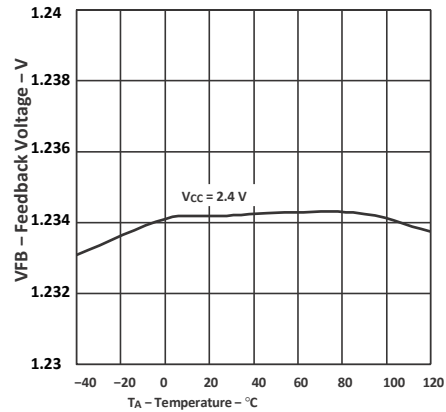

Figure 6-6. Relationship between Feedback Voltage and Temperature under Natural Ventilation Conditions
Pulling the enable terminal (EN) to ground shuts down the device, which reduces the shutdown current to 1 μ A (typical). Because there is a conductive path between the input and output through the inductor and Schottky diode, the output voltage is equal to the input voltage during shutdown. The enable pin must be terminated and must not be left dangling. Use a small external transistor to disconnect the input from the output during shutdown as shown in Figure 6-6.